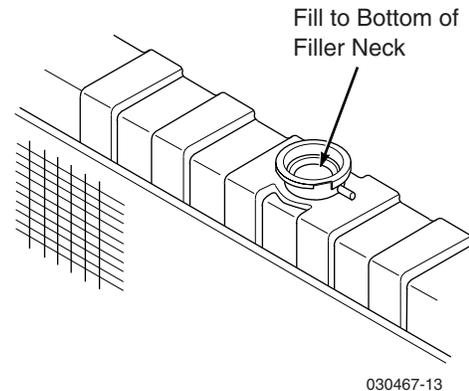

Figure 7-13 Coolant Level in Radiator
- Visually check the coolant level. The coolant level should be up to the bottom of the filler neck as shown in figure 7-13. Add a mixture of coolant and soft water as needed.